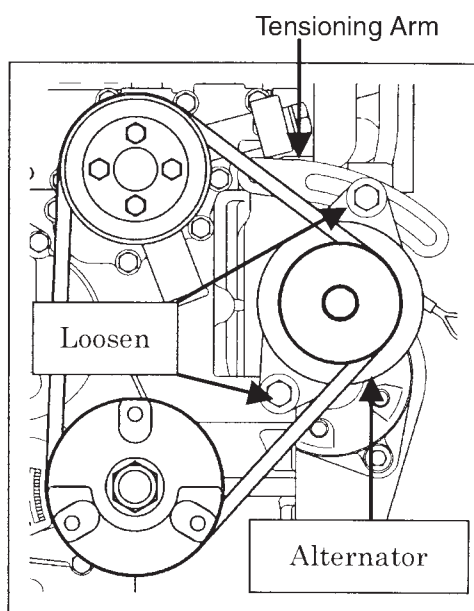

Figure 5: Belt Tension
3. If belt needs to be adjusted - pivot the alternator (Figure 5) at the alternator mounting bolt by: